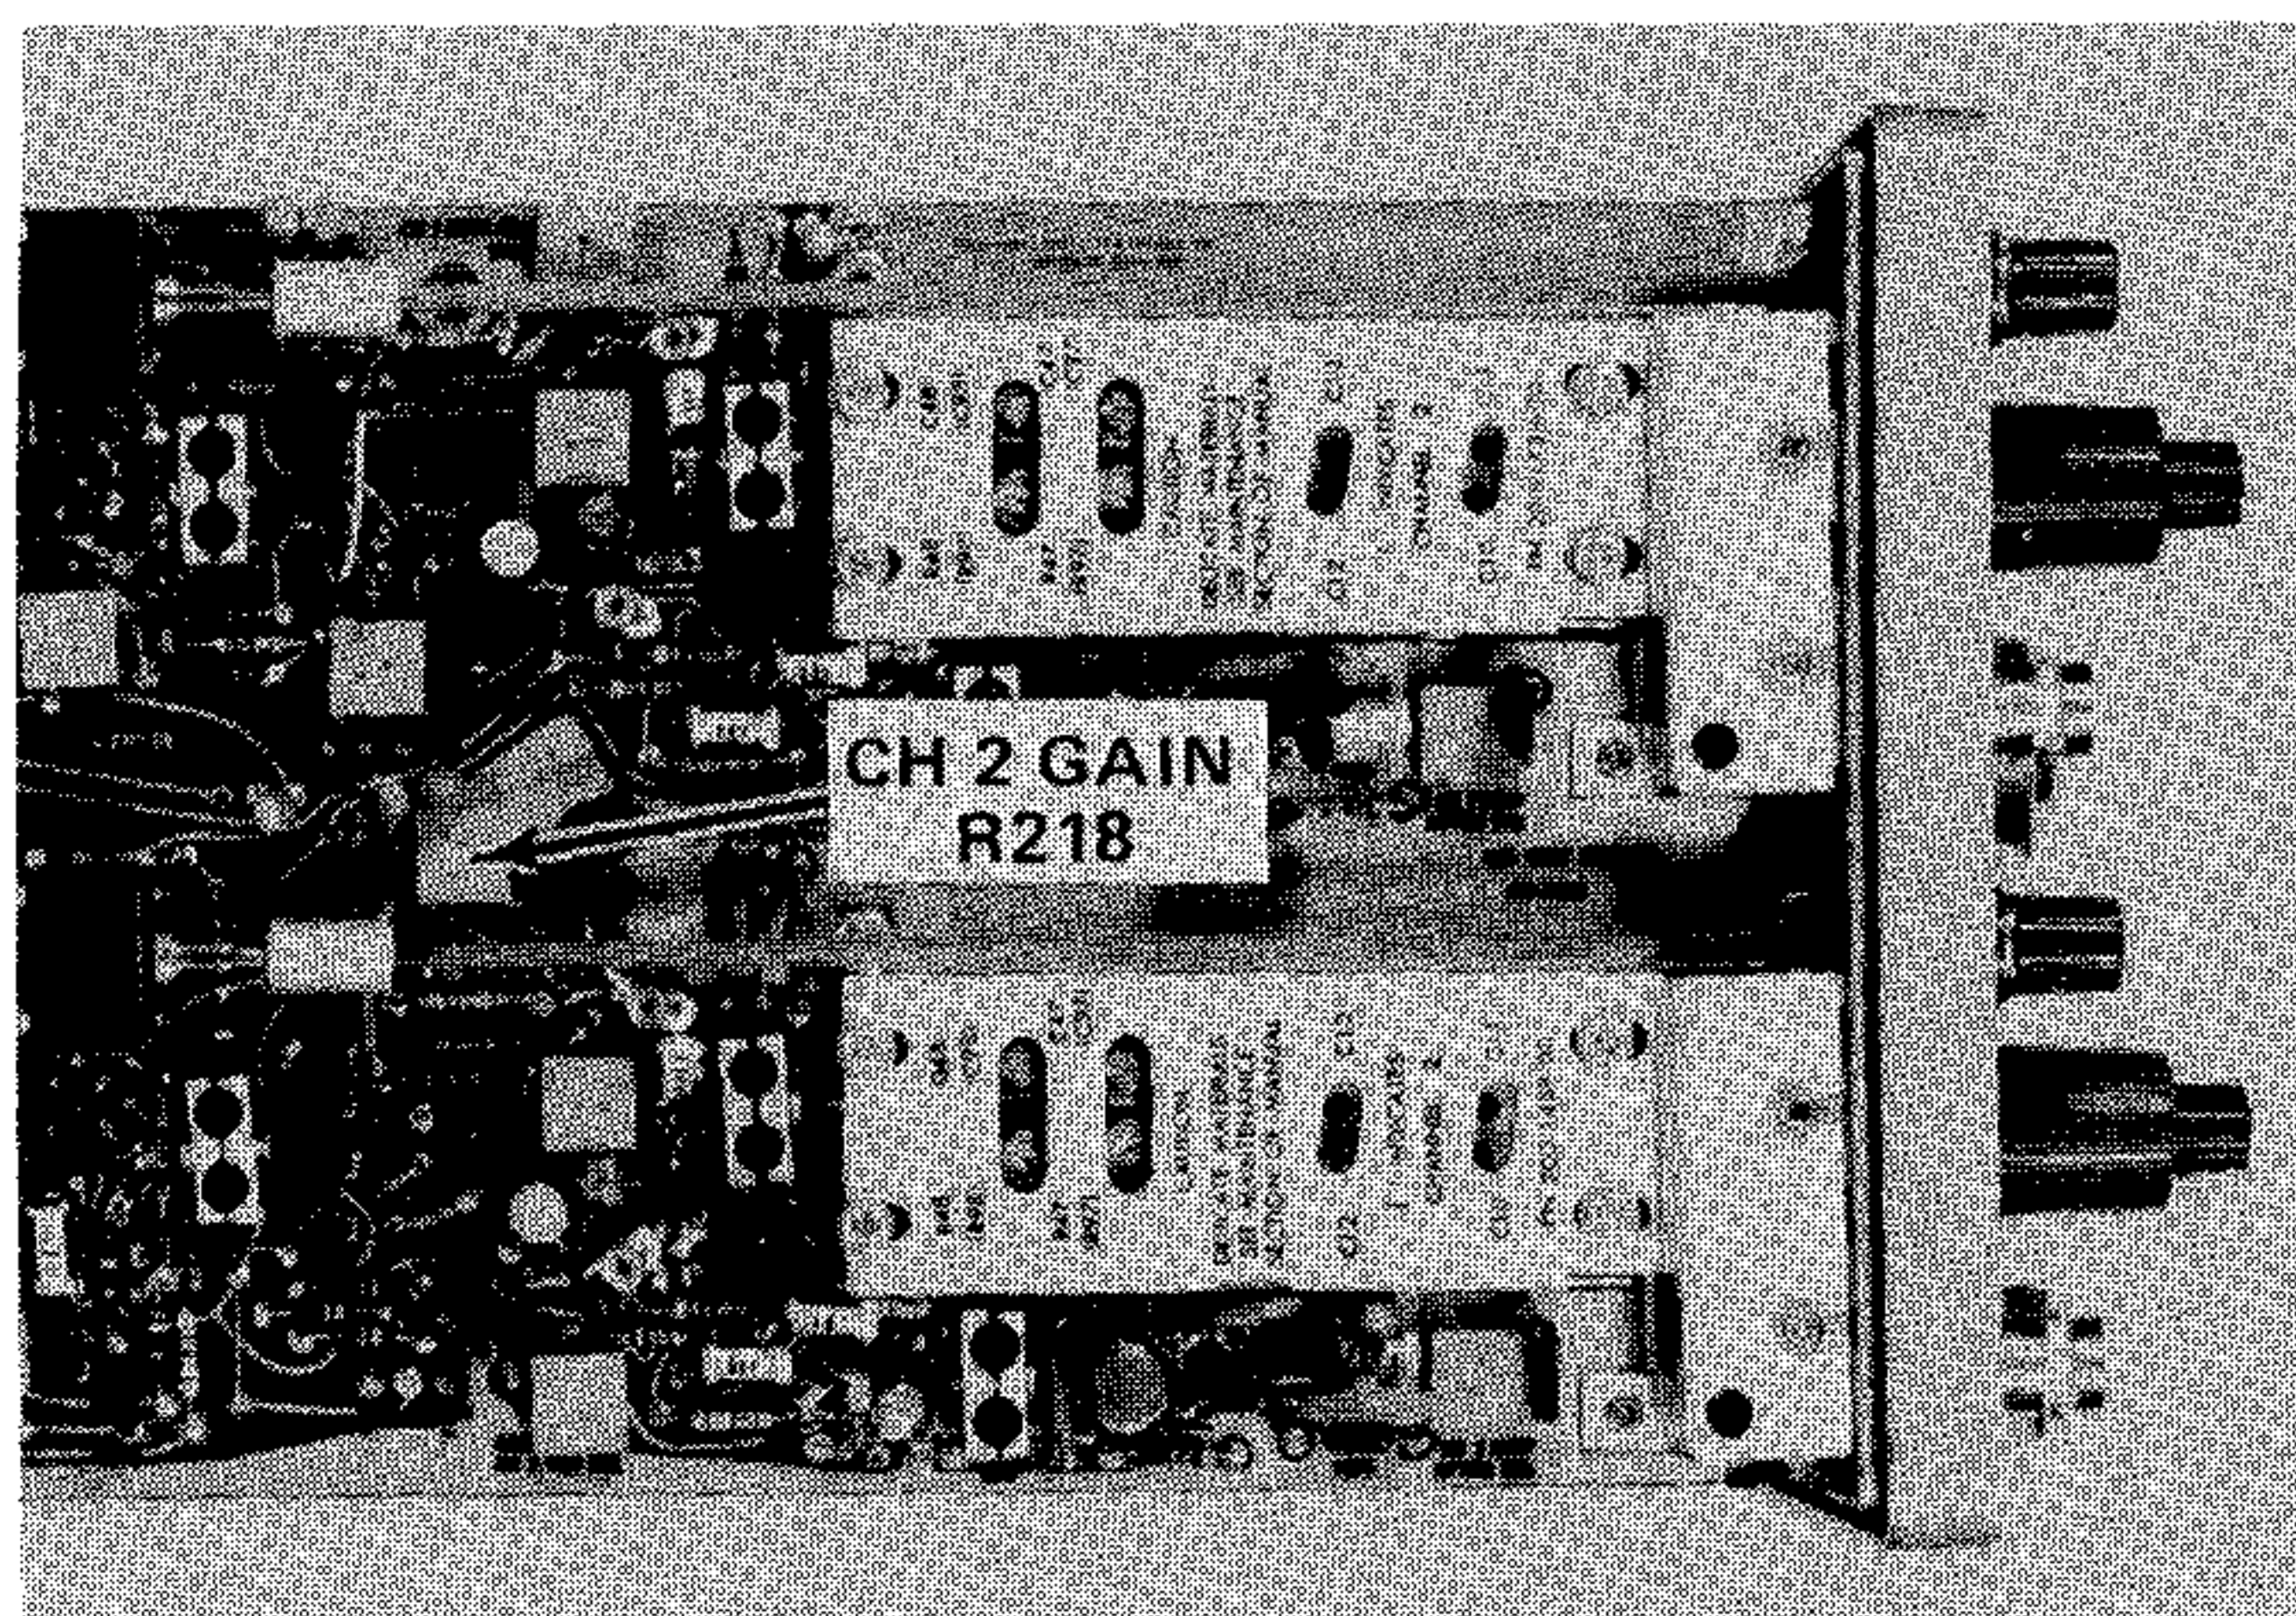

Fig. 5-16. Location of CH 2 Gain adjustment.
- e. ADJUST—CH 2 Gain adjustment R218 (see Fig. 5-16) for 4 divisions of deflection.